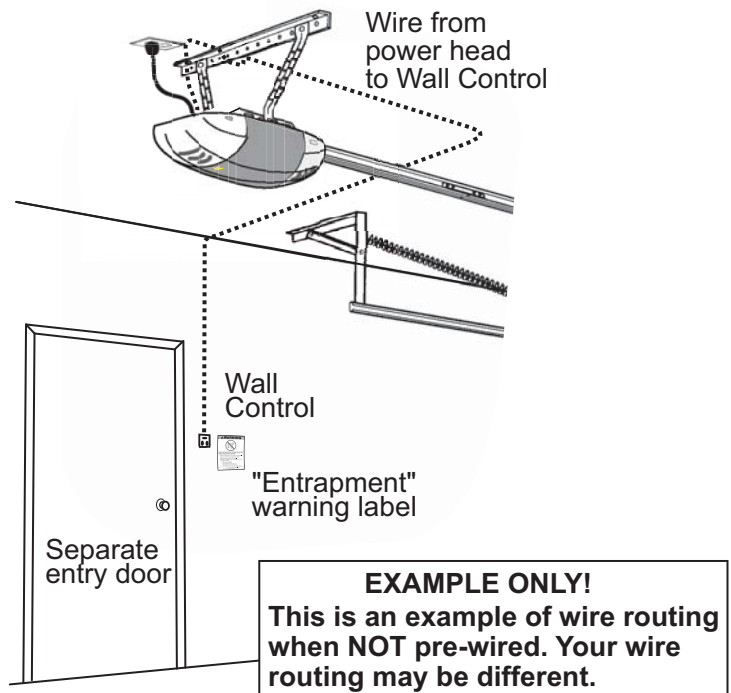

FIG. 3-1 Wall control wire routing
- Locate wall control pre-wired wire ends (**Fig. 3-1**). (They should be located within the guidelines mentioned above.)
- Pick a convenient location for mounting wall control using the guidelines mentioned above (**Fig. 3-1**).
- Run wire from wall control to power head (**Fig. 3-1**).